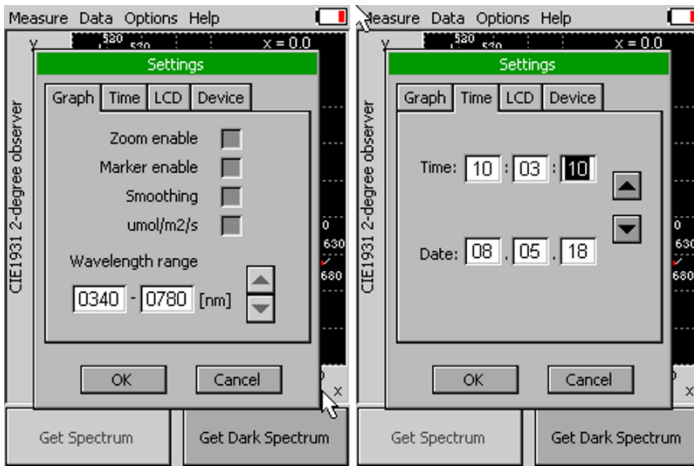

Fig. 11 A) Graph settings B) Time setting.
- **Graph** – displays options for setting the wavelength range and graph features (Fig. 11-A)
- **Time** - displays actual time and date (all data files are stored by time and date signature). To change time and/or date specifications touch on one of the values and adjust it using the arrows (Fig. 11-B).